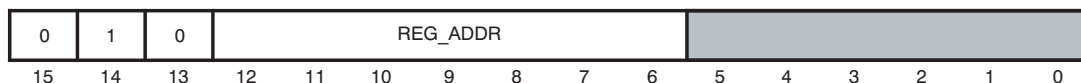
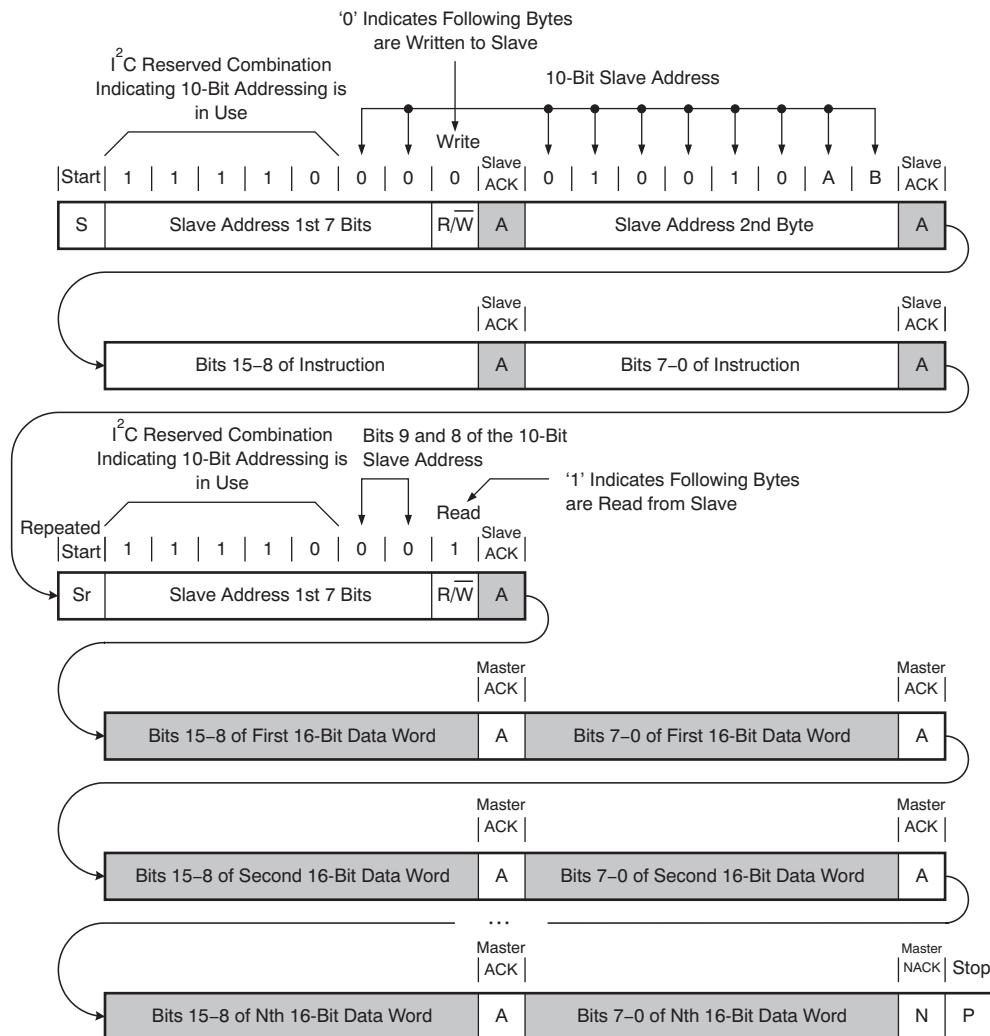

Figure 11. Register Read Instruction Format
Figure 13. Example I²C Read Operation
Read operations require a start condition followed by two bytes describing both a 10-bit address format and the AFE8221 10-bit slave address. The next two bytes must contain the 16-bit instruction word format, as illustrated in Figure 11. A repeated start followed by the first byte of the slave address is then required to create a combined transaction. Note that the R/W bit is set to 1 (read), indicating that subsequent bytes are to be read from the slave. The AFE8221 presents addressed 16-bit data words in 8-bit pairs until a NACK (N) is provided by the master. After the final pair of read data bytes, an I²C stop condition must be provided to terminate the transaction. Figure 13 illustrates a block read transfer of *N* 16-bit data words. Gray areas denote slave-driven SDA cycles; white areas are master-driven.